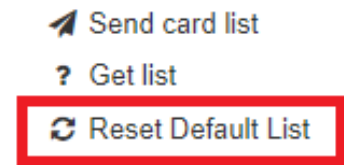

Figure 9.5
4. In the socket panel, click the  "Card List Management" button and then the "Remove List" button (see Figure 9.5).